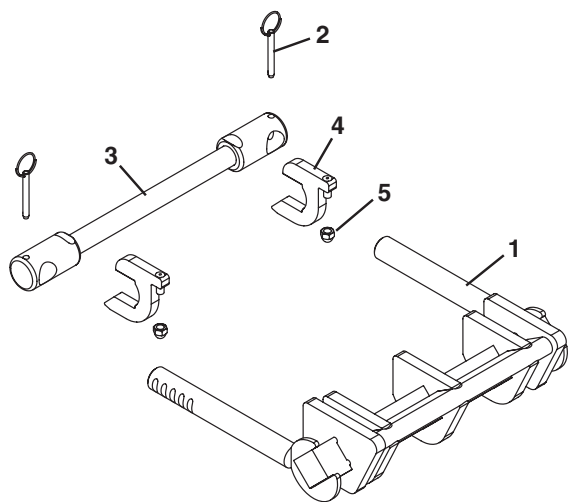

Figure 11
Typical Nose Bar Tip Up Tail Components (**Figure 11**)
Adjust the acorn nuts (Figure 11, item 5) on the key stops (Figure 11, item 4) to raise or lower the tip up tail assembly.